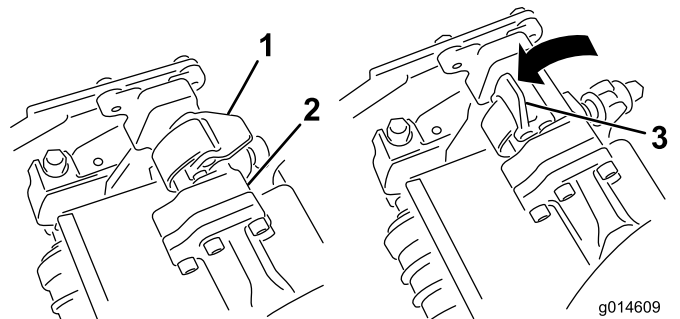
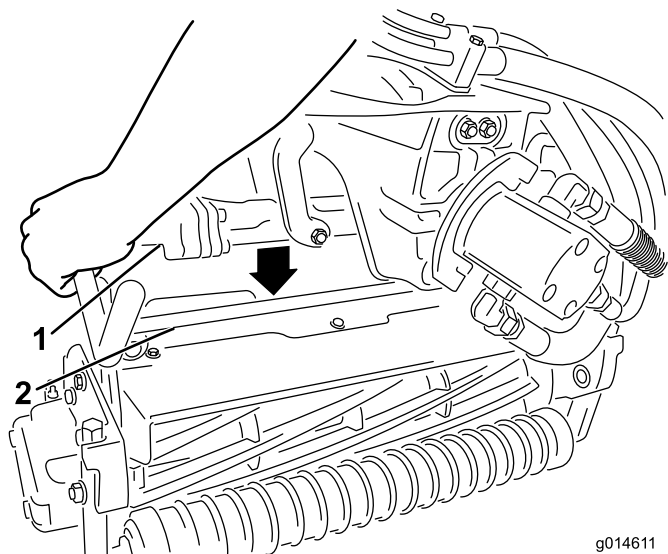

Figure 11
Figure 12
5. With the latches on the suspension-arm bar pointing up (i.e., open) (**Figure 11**), push the suspension arm down so that the bar fits over the bar across the top of the cutting unit (**Figure 12**).
6. Close the latches down and around the cutting-unit bar and lock them in place (Figure 11).